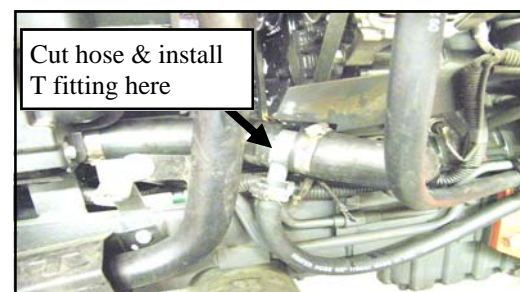

FIG. 2.4
- 2.4 For the return line from the heater, cut the lower radiator hose in the location shown and install the enclosed T fitting with large hose clamps provided. See figure 2.4